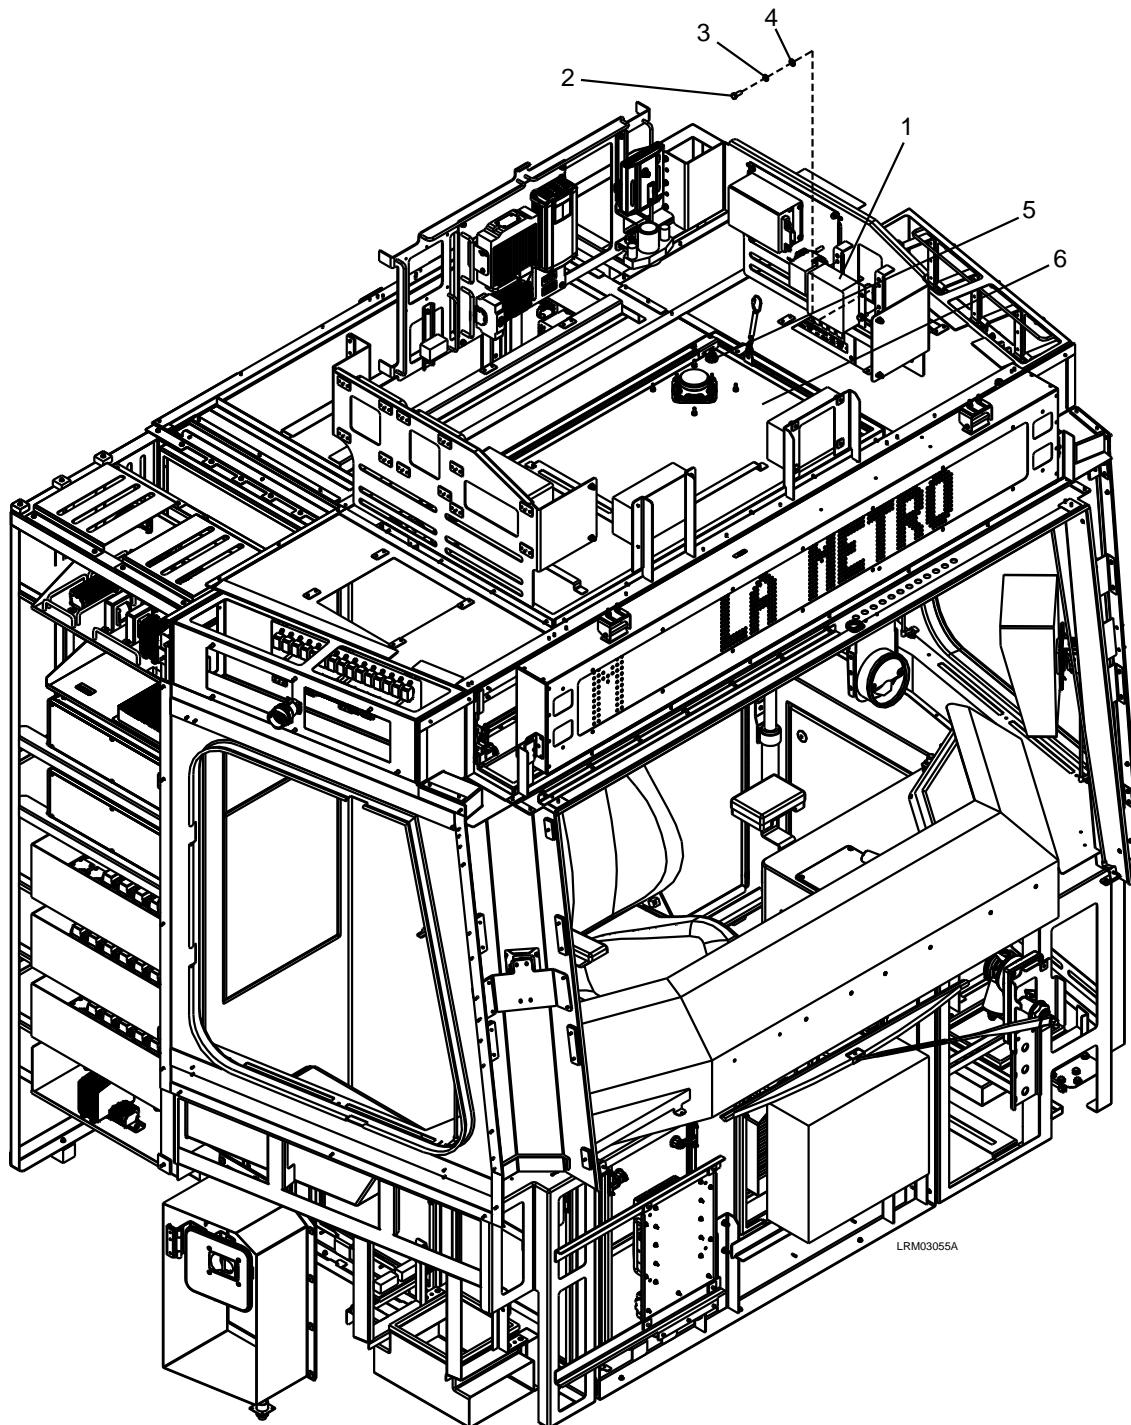

Figure 7-63: Wayside Worker Alert System (WWAS)
1. Unlock the two locks (5) and lower the cab ceiling panel (6) to access the WWAS (1) and disconnect the electrical connectors. See Figure 7-63.
2. Remove the four M8 x 20 bolts (2), M8 lock washers (3), and M8 plain washers (4).
3. Carefully remove the WWAS (1).